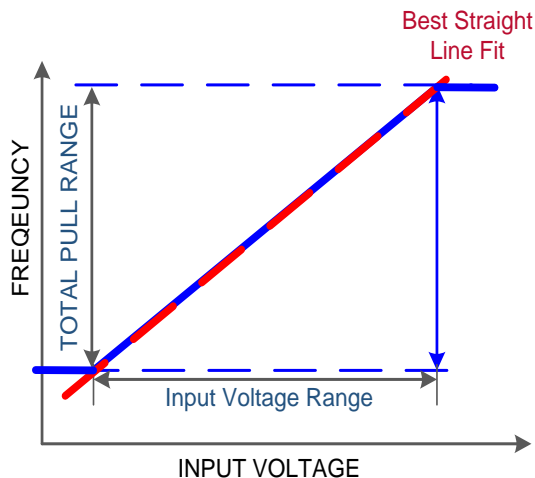

Figure 49. Typical SiTime VCTCXO Linearity
In any VCTCXO, there will be some deviation of the frequency-voltage (FV) characteristic from an ideal straight line. Linearity is the ratio of this maximum deviation to the total pull range, expressed as a percentage. Figure 49 below shows the typical pull linearity of a SiTime VCTCXO. The linearity is excellent (1% maximum) relative to most quartz offerings because the frequency pulling is achieved with a PLL rather than varactor diodes.